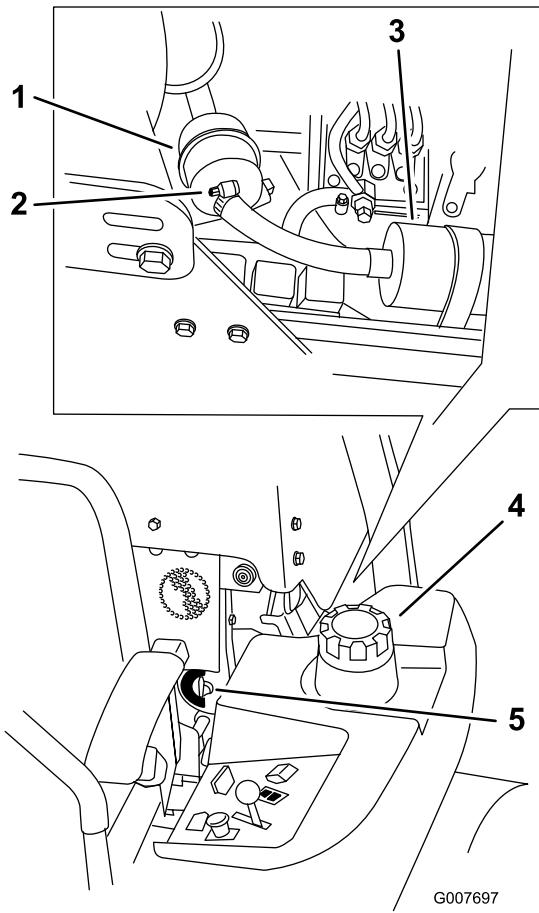

Figure 52
4. Close the fuel shut-off valve(Figure 52).
5. Loosen the 2 hose clamps and disconnect the fuel lines from the fuel filter (Figure 52).
6. Install a new filter. Connect the fuel lines to the fuel filter and install the hose clamps (Figure 52).